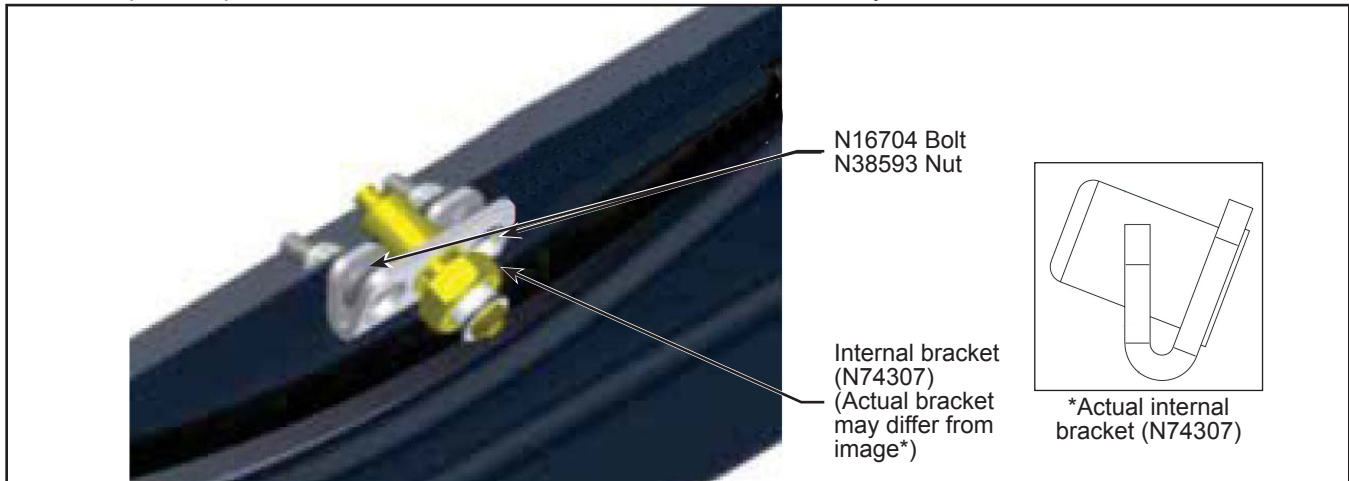

Figure 8 - N74307 Internal Bracket
- 1.18. Align the internal bracket (N67424) with the holes drilled in step 1.15, and secure it in place with N16704 bolts, N38593 nut and medium strength Loctite, or equivalent. See Figure 8.